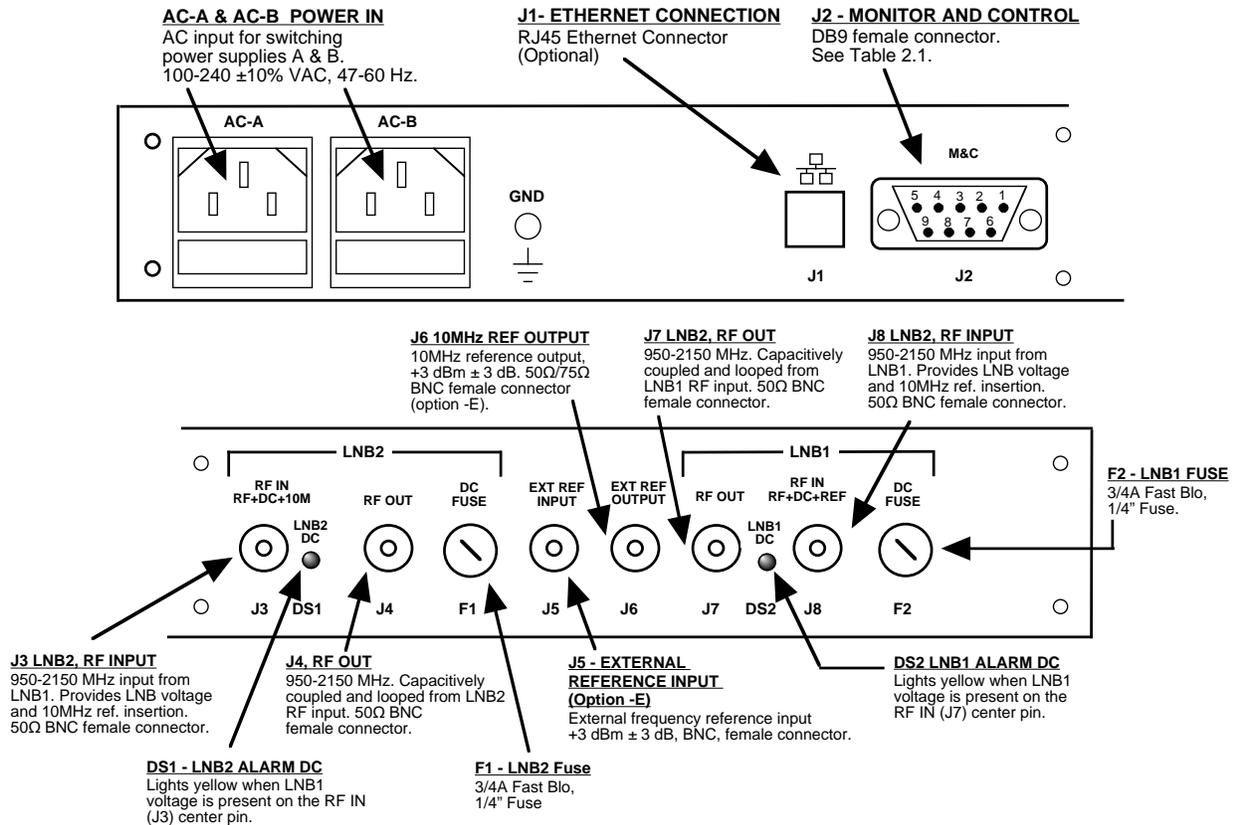

FIGURE 2.1 2099-24 Rear Panel Outputs
2.2 Rear Panel Output Signals - Figure 2.1 shows the input and output connectors on the rear panel.
2. Connect 100-240 \pm 10% VAC, 47-63 Hz to AC-A and AC-B connectors (Figure 2.1).